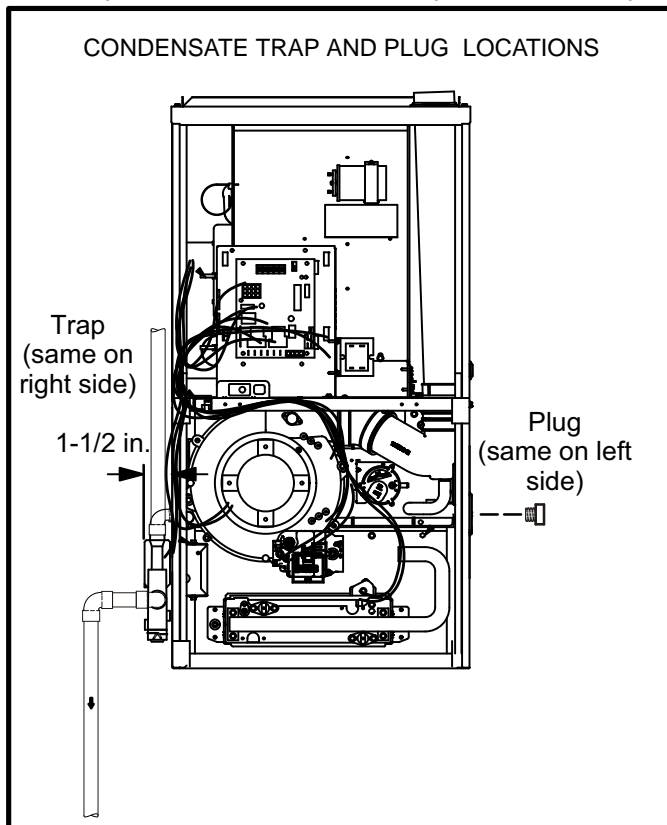

FIGURE 45
This unit is designed for either right- or left-side exit of condensate piping. Refer to figure 45 for condensate trap locations.
- 2 - For furnaces with a 1/2" drain connection use a 3/8 allen wrench and remove plug (figure 45) from the cold end header box at the appropriate location on the side of the unit. Install field-provided 1/2 NPT male fitting into cold end header box. For furnaces with a 3/4" drain connection use a large flat head screw driver or a 1/2" drive socket extension and remove plug. Install provided 3/4 NPT street elbow fitting into cold end header box. Use Teflon tape or appropriate pipe dope.